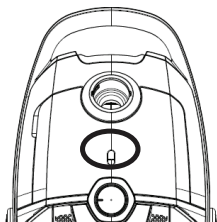

Fig. 8
Replace the dust bag when the dust bag full indicator (6) shows red or a loss of suction occurs (Fig 8).